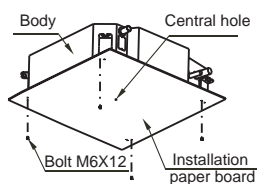

Fig.5-8
- 2 After installing the body, please fasten the installation paper board onto the air conditioner with bolts(M6X12) to determine in advance the sizes and positions of the hole opening on ceiling. (refer to fig.5-8)